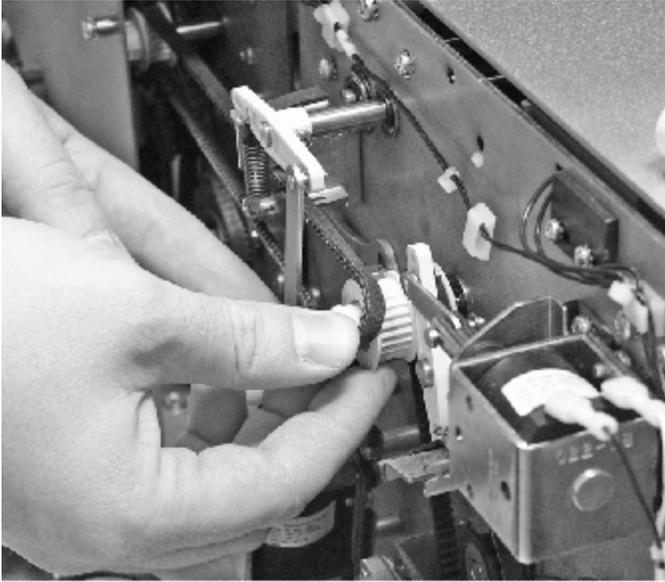

Figure 20 Walking the HCSF Drive Belt On
- c. Walk the belt onto the HCSF exit drive pulley. See Figure 20.